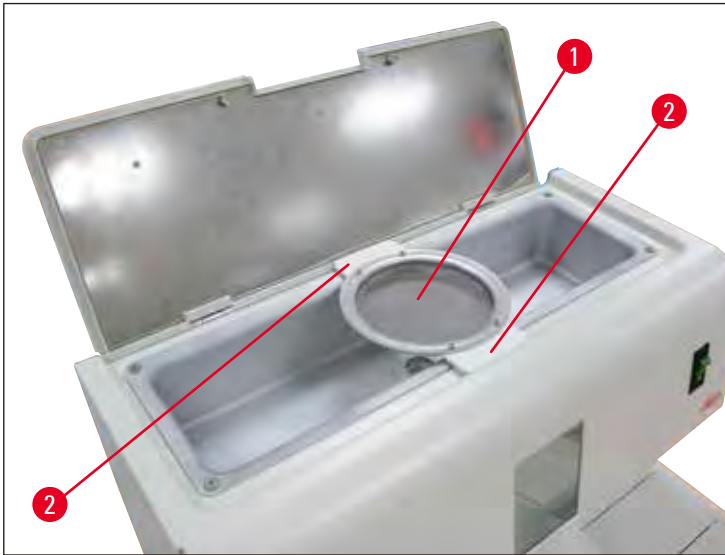

Fig. 27
- Place the pre-filter cup (→ Fig. 27-1) on the paraffin tank (→ Fig. 27).